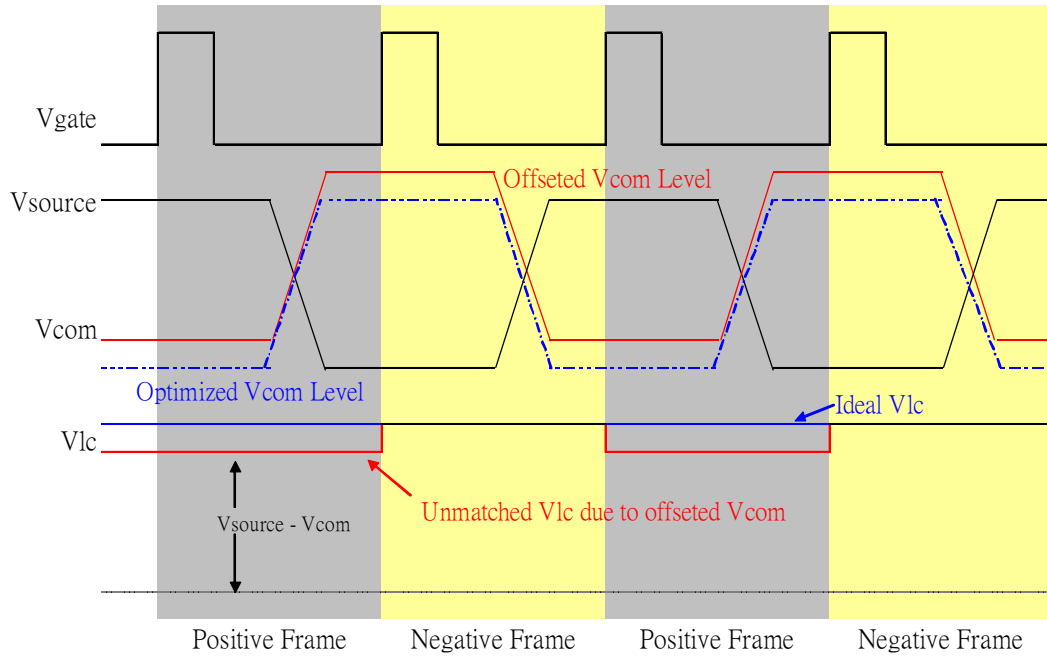

Figure 3-10 Un-optimized Vcom Level
- This offset can cause the unmatched LC voltage in the positive and negative frame as shown in Figure 3-10 and create the appearance of flicker within the display.